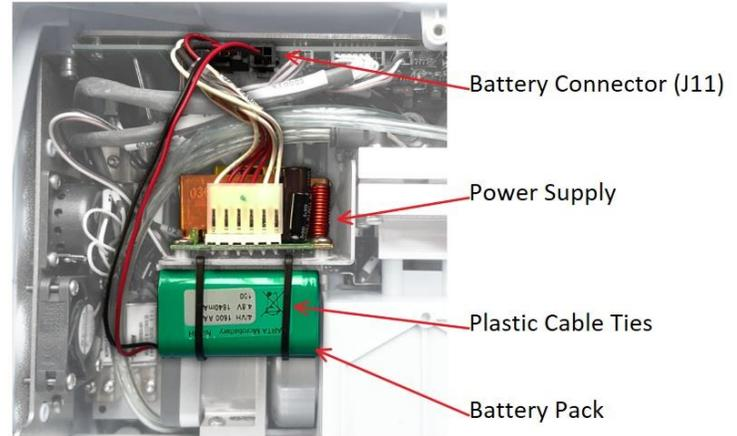

Figure 3-9 Power Supply/Battery Pack
4. Remove the battery from the power supply by cutting the two plastic cable ties securing it and disconnect it from the electrical connector, (J11). (Figure 3-9).